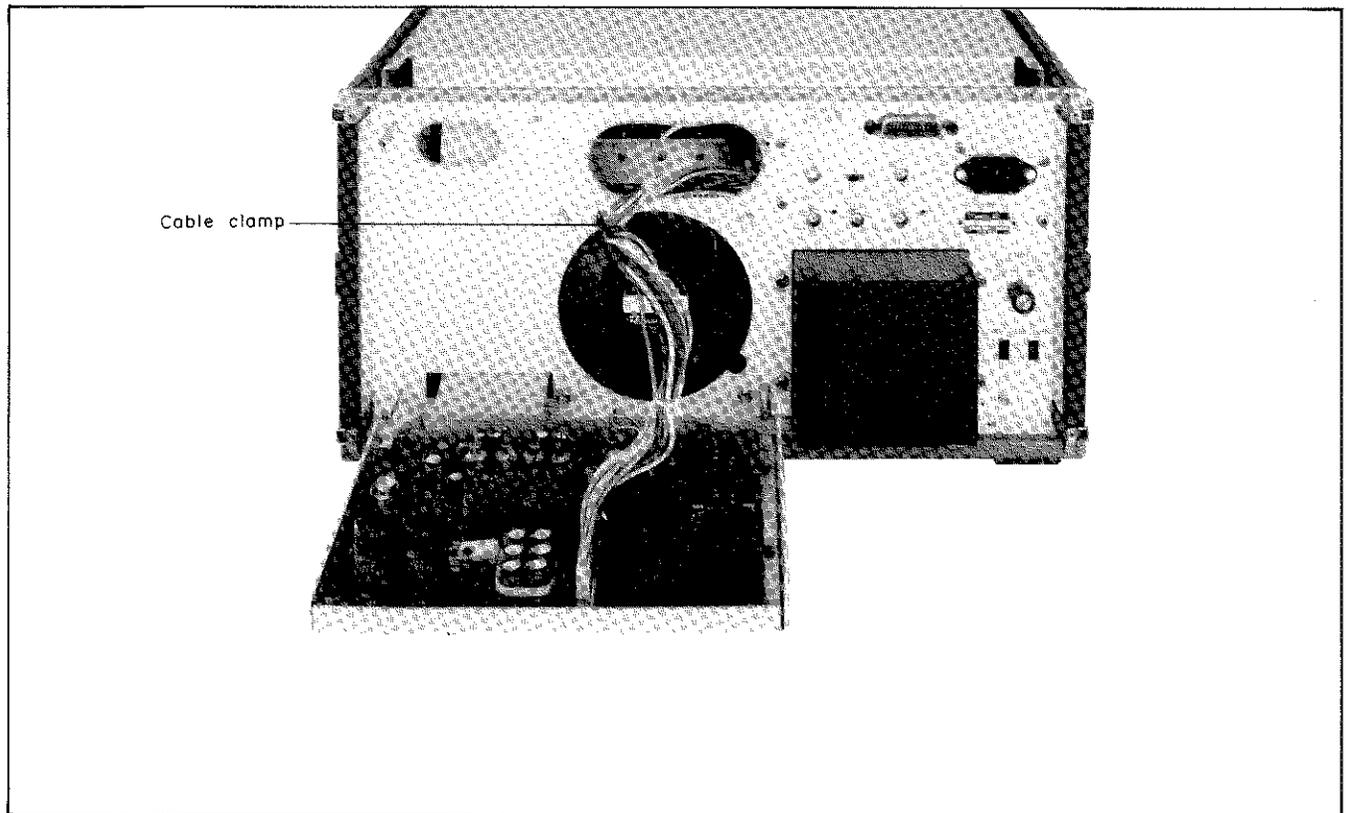

Figure 8-21. A23 Power Supply Board Disassembly.
- b. To facilitate access to the components on the A23 board, unfasten the cable clamp shown in Figure 8-21 (by removing the retaining screw).